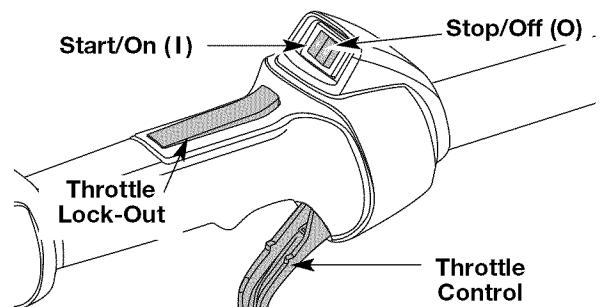
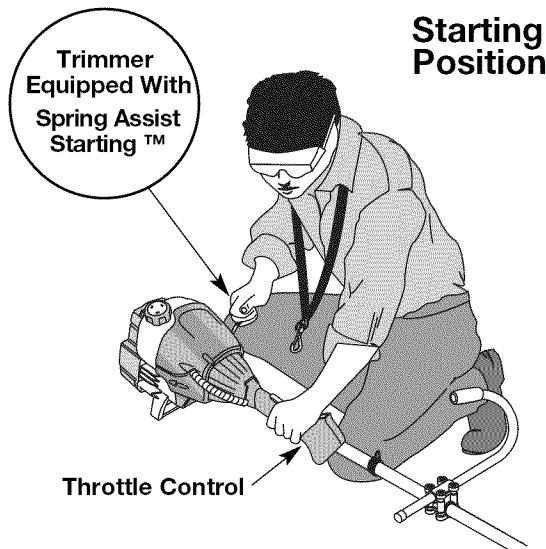

Fig. 19
Fig. 21
WARNING: Avoid accidental starting. Make sure you are in the starting position when pulling the starter rope (Fig. 21). To avoid serious injury, the operator and unit must be in a stable position while starting.
NOTE: There is no need to turn the unit on. The On/Off Stop Control is in the ON (I) position at all times (Fig. 19).
4. Crouch in the starting position (Fig. 21), squeeze the throttle lock-out and throttle control (Fig. 19), and pull the starter rope out with a **controlled and steady motion** 5 times.
2. Press and hold On/Off Stop Control in the OFF (O) position until engine comes to a complete stop (Fig. 19).